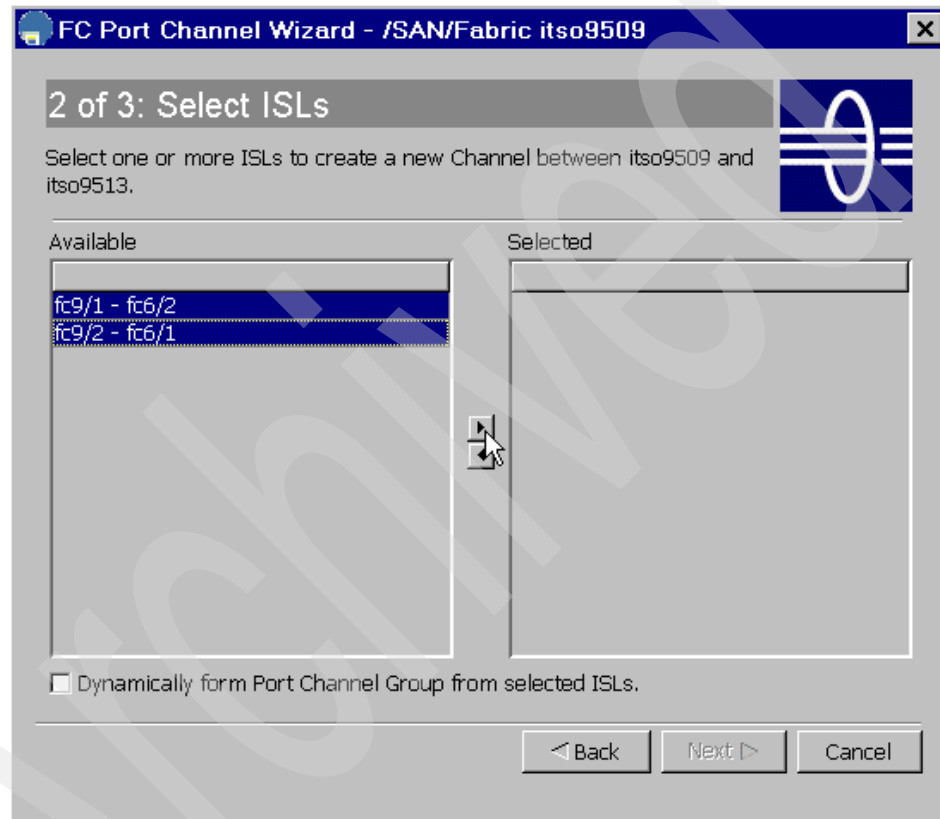

Figure 36 PortChannel ISL selection panel
3. In the next panel (Figure 36), select the ISLs to bundle into the PortChannel. It is best practice to select links from multiple modules for high availability reasons.